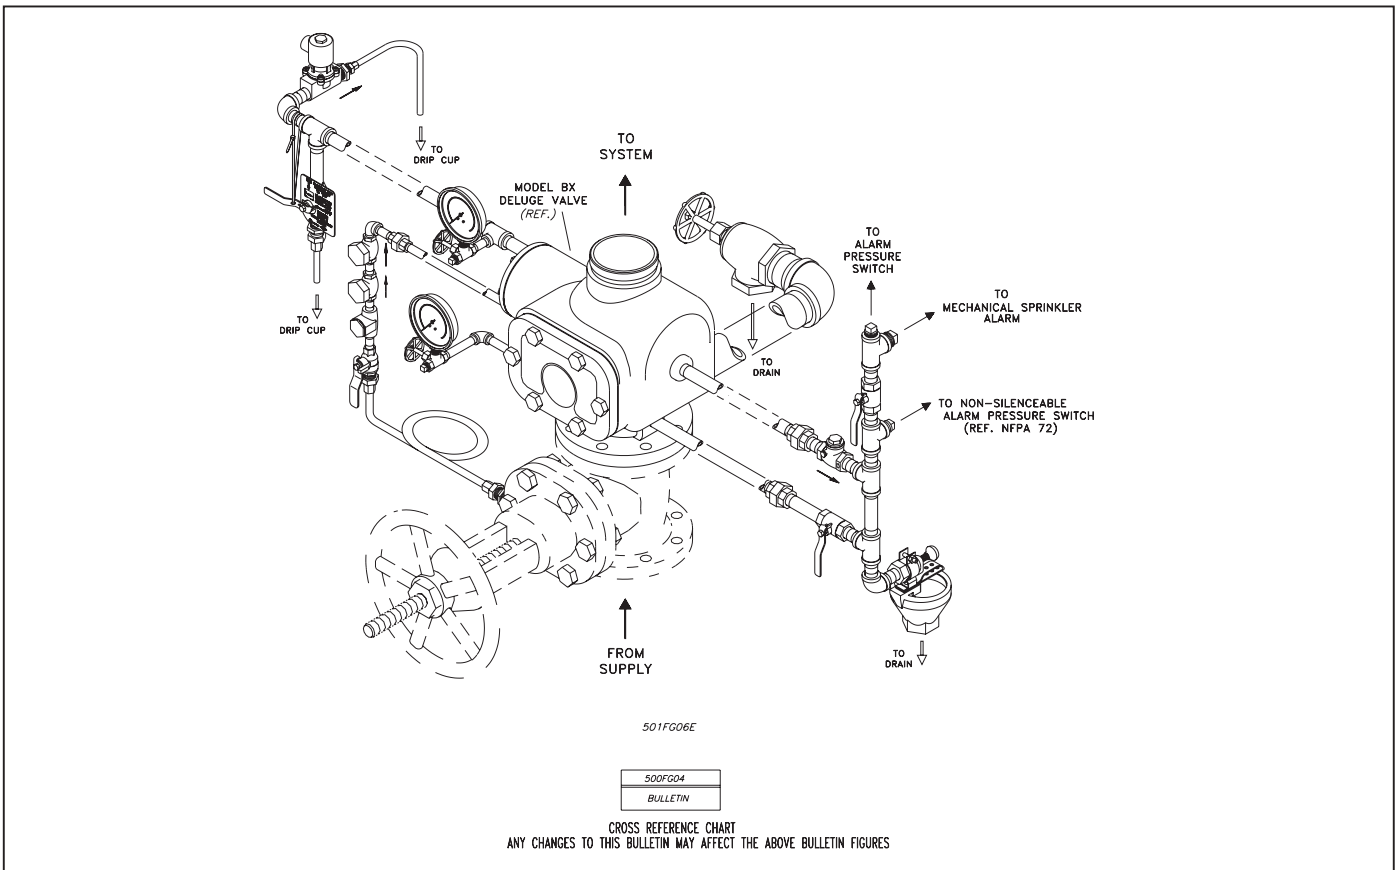

Figure 6 — Electric Actuation Trim
This trim (Figure 6) uses Solenoid Valve (1), attached to the wet pilot trim for releasing the deluge valve. Details on the electrical portion of this trim can be found in Reliable Bulletins 707 and 708, which describe Supertrol deluge and preaction systems.